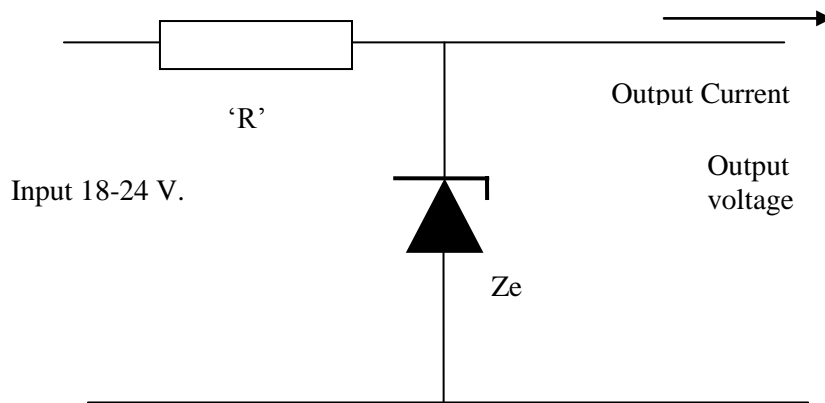

Fig Q3
- (a) the value to which the variable resistor must be set to reduce the current to 6 A; (6)
- (b) the power dissipated in the non-linear element when the current is 6 A; (2)
- (c) the current if the supply voltage is reduced to 150 V and the series resistor is set to 10Ω . (8)
3. A simple voltage stabiliser consists of a 1 W Zener diode and a series resistor 'R' as shown in Fig Q3. The Zener diode has a breakdown voltage of 12 V and a slope resistance of 2Ω . It requires a minimum current of 2 mA for successful stabilisation. The unregulated input voltage can vary between 18 V and 24 V.